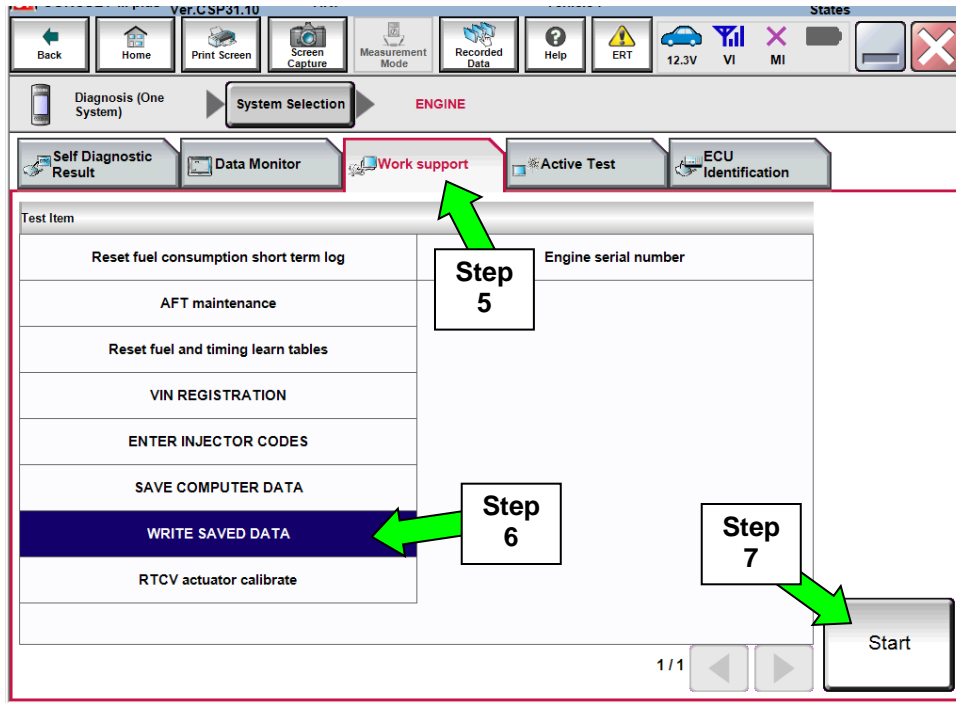

Figure 2A
5. Navigate C-III plus to ENGINE > Work support (see Figure 2A).